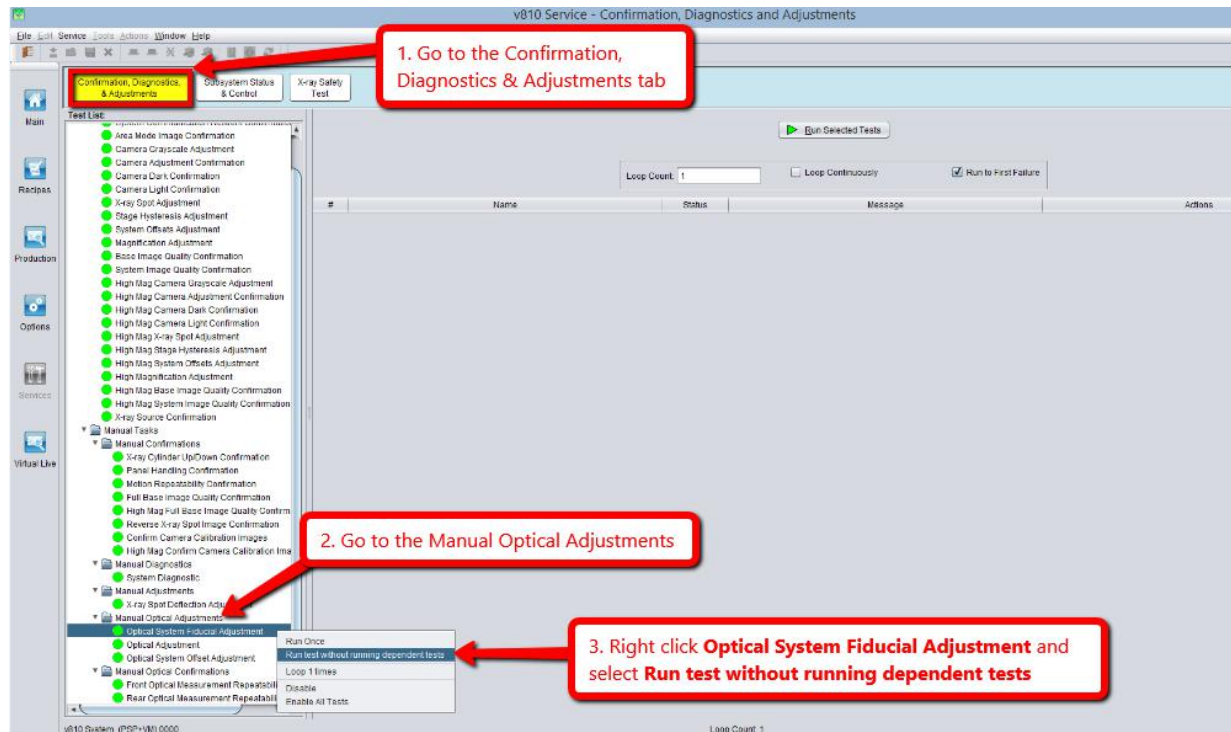

Figure 6 Optical System Fiducial Adjustment
8. At Confirmation, Diagnostics and Adjustment (CD&A), under the Manual Optical Adjustments, right click **Optical System Fiducial Adjustment** and select **Run test without dependent tests** as shown in the Figure 6.